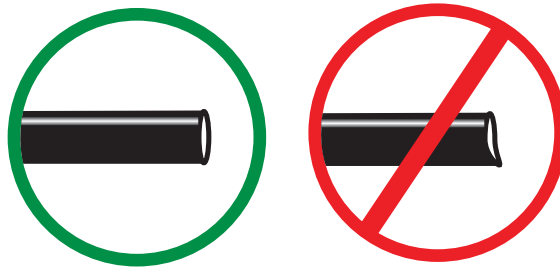

fig. 8
- a. Check the air line connection by deflating the spring and removing the line by pulling the collar against the fitting and pulling firmly on the air line. Trim 1" off the end of the air line. Be sure the cut is clean and square (see fig. 8). Reinsert the air line into the push-to-connect fitting.